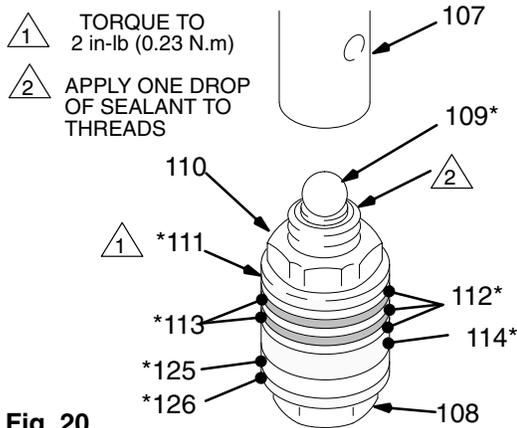

Fig. 20
1. Check the outside of the piston rod (107) and the inside of the cylinder (115) for wear. Replace worn parts to ensure a good seal with the new packings.
2. Stack these parts onto the piston valve (108) one at a time: the backup washer (126*) and u-cup (125*), the female gland (114*), alternately three plastic (112*) with two leather packings (113*), and the male gland (111*). See Fig. 20.
5. Place the ball (109*) on the piston valve (108). See Fig. 20.